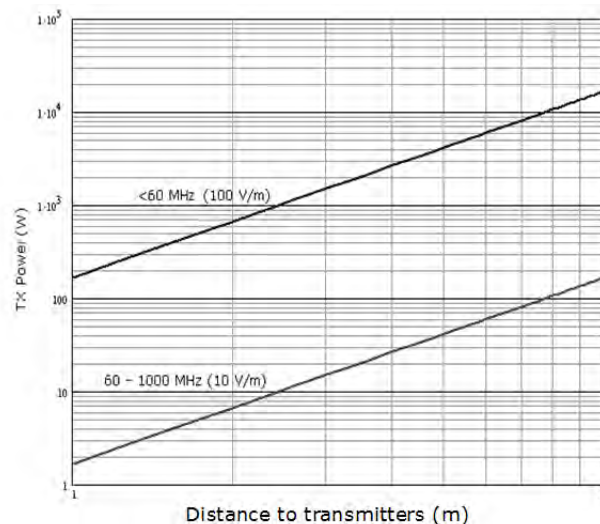

Figure 2-11: Recommended distance to transmitters (m) for frequencies below 1000 MHz
**Note** Do not place the antenna close to interfering signal sources or receivers. For allowed distances to other transmitters see Figure 2-11. It is recommended to test the total system by operating all equipment simultaneously and verifying that there is no interference.